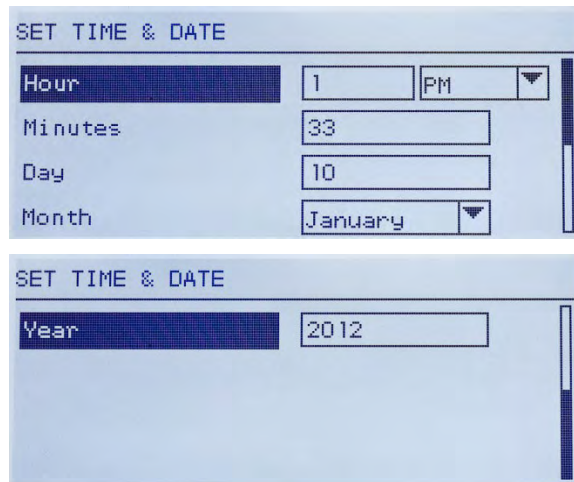
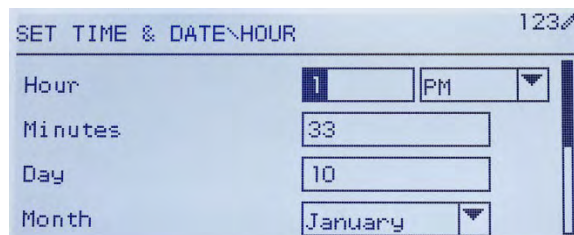

Figure 3-4: Set Time & Date
Figure 3-5: Time & Date Setup, Hour Field in Focus
- When focus is in the left column, as in Figure 3-3 and Figure 3-4, pressing the LEFT arrow key will exit the **SETUP** menu and display the **OPERATOR** menu.
In Figure 3-4, a field label (**Hour**) is in focus. In Figure 3-5, the numeric entry field for the Hour value is selected. Use the number pad keys to modify the value. When the correct number is displayed, press ENTER to confirm the selection and move to the next (**Minutes**) field label.